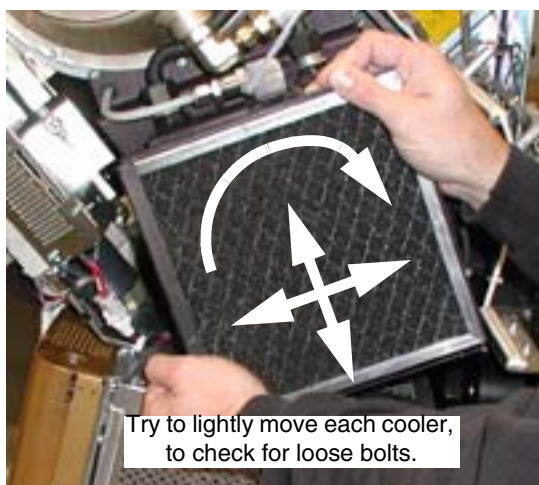

Figure 7 - Example bolt check method
- 4.) Verify that each cooler is secure by attempting to move in three ways: rotation, up/down/left/right, and in/out per Figure 7, below. Do NOT forcefully attempt to move the cooler.